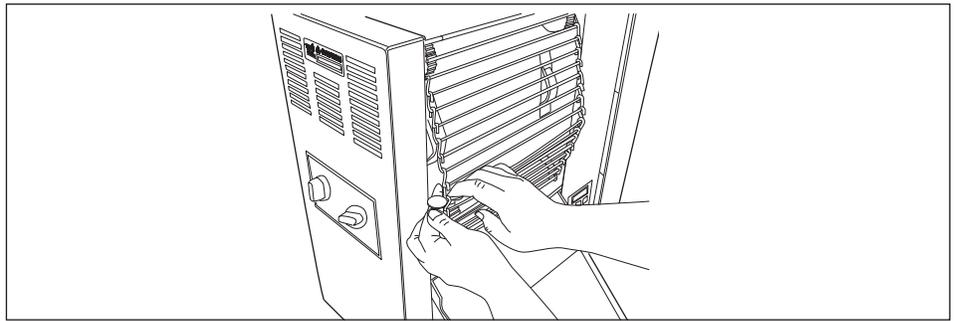

Figure 9. Removing Conveyor Belt Chain
6. Pull the Conveyor Chain away from the edge of the toaster (Figure 9).
7. Stand a U.S. Dime on end between the frame and the chain (Figure 9).